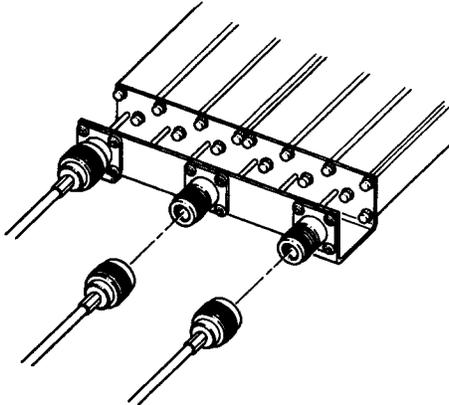

Figure 2-6. Duplexer, Rear View
9. Connect the type-N end of the RF cable from the receive radio to the appropriate port of the duplexer (refer to Figure 2-6).
10. Connect the type-N end of the RF cable from the transmit radio to the appropriate port of the duplexer (refer to Figure 2-6).